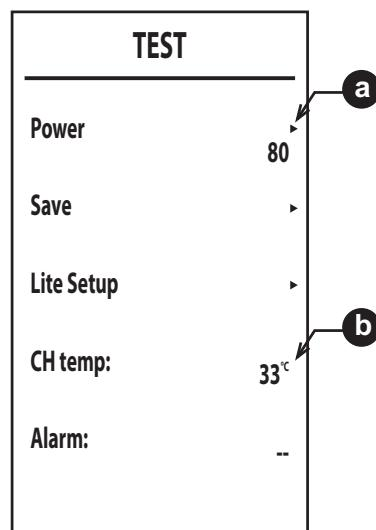

fig. 31
- Press the heating buttons to scroll the first 3 items (Power, Save, Lite Setup - fig. 31) press the button  to confirm the choice.